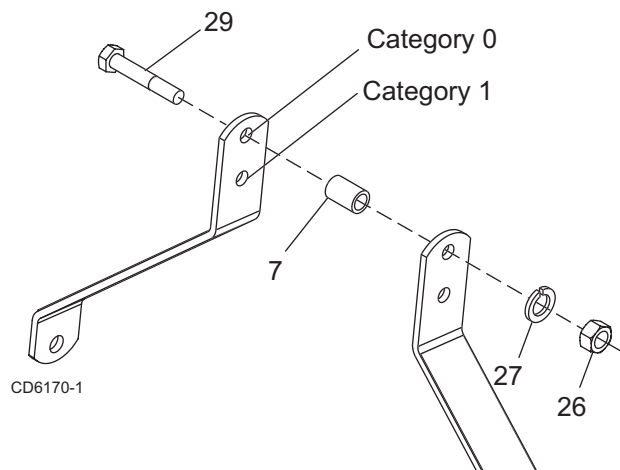

Figure 3. Sleeve Locations
1. Remove cap screw (29), sleeve (7), lock washer (27), and hex nut (26) from lower hole on A-frame bars as shown in Figure 3.